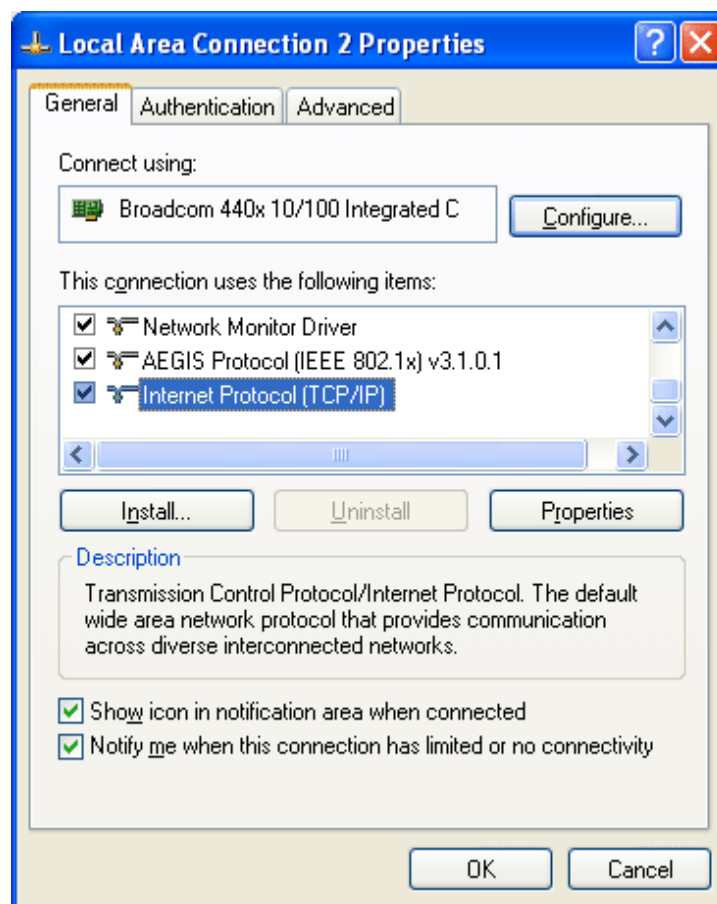

Figure A.1 - Local Area Connection Properties
4. Select "Internet Protocol (TCP/IP)" then click on Properties, Refer to Figure A.1.